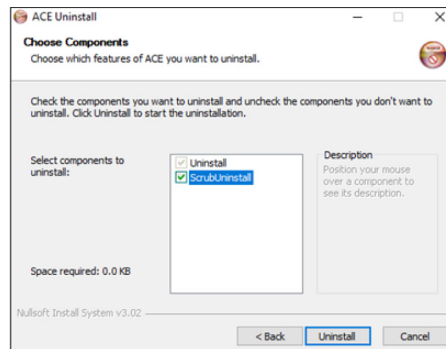

Figure 118. ScrubUninstall Used to Troubleshoot Erroneous ACE Installation
3. Select **ScrubUninstall** in the ACE uninstall wizard as shown in Figure 118. This is necessary to remove any older ACE plugin versions, but it also removes any custom files, settings, and data exports previously stored by the user. Note that this step must only be performed as a fallback option if ACE installation appears corrupted, and it is necessary to start from a clean slate.